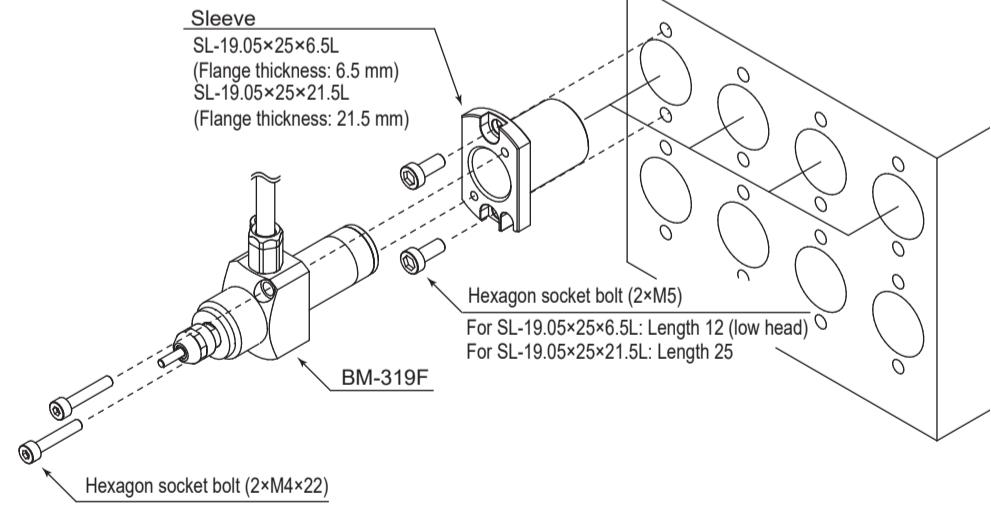

Fig. 3
- Align the two mounting holes on the motor spindle's flange with those on the sleeve. Secure it using two M4 hexagon socket bolts (see Fig. 3).